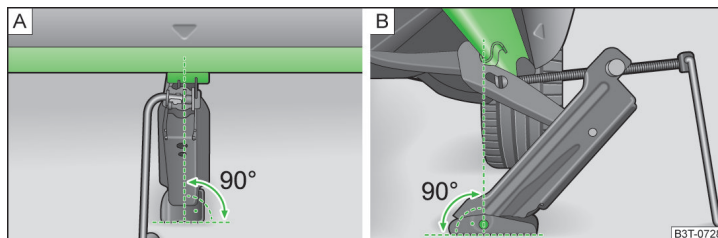

Fig. 150 Attach lifting jack
The mounting points are located on the metal bar of the lower sill on the underside of your vehicle. The positions of these are embossed by means of markings on the side surface of the lower sill » Fig. 150.
- Support the base plate of the jack with its full area resting on level ground and ensure that the jack is located in a vertical position at the jacking point » Fig. 150 - **A**.
- Position the lifting jack below the jacking point with the crank and move it up until its claw encloses the web » Fig. 150 - **B**.